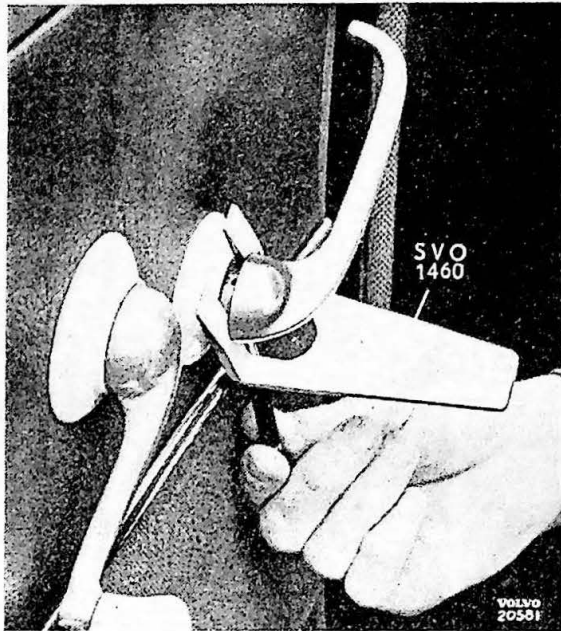

Fig. 14.
1. Remove first the door handle, arm rest and window regulator. The door handle and the window regulator are removed as shown in Fig. 14.
1. Remove the arm rest, the inner door handle and the window regulator. The door handle and the window regulator are removed by using tool SVO 1460 as shown in Fig. 14.
2. Remove window regulator and inner door handle. These are removed by using tool SVO 1460 as shown in Fig. 14.